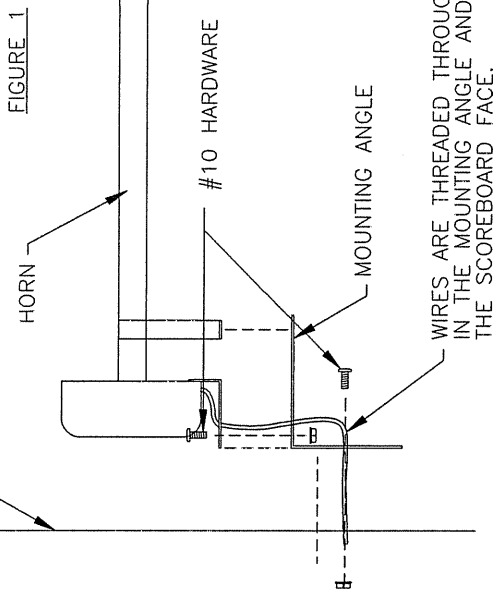

FIGURE 1
2. ATTACH THE HORN TO THE MOUNTING ANGLE USING THE HARDWARE PROVIDED (FIGURE 1).